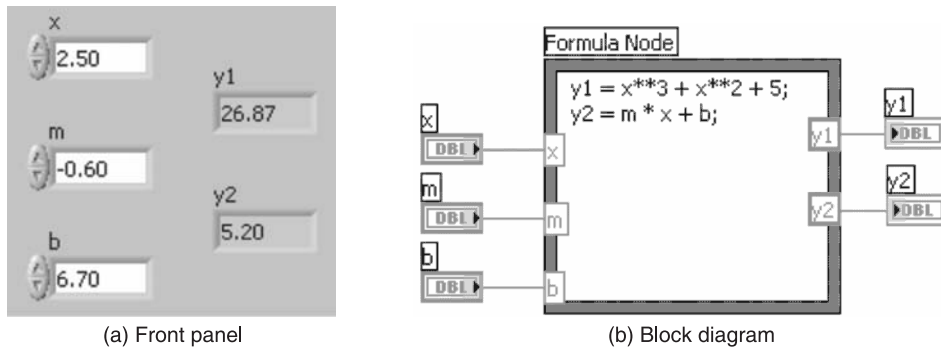

Figure P8.9
**Solution** The front panel and the block diagram to solve the equation using the formula node are shown in Figures P8.9(a) and P8.9(b).